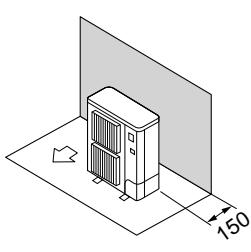

Fig. 2-3
① Obstacles at rear only (Fig. 2-3)